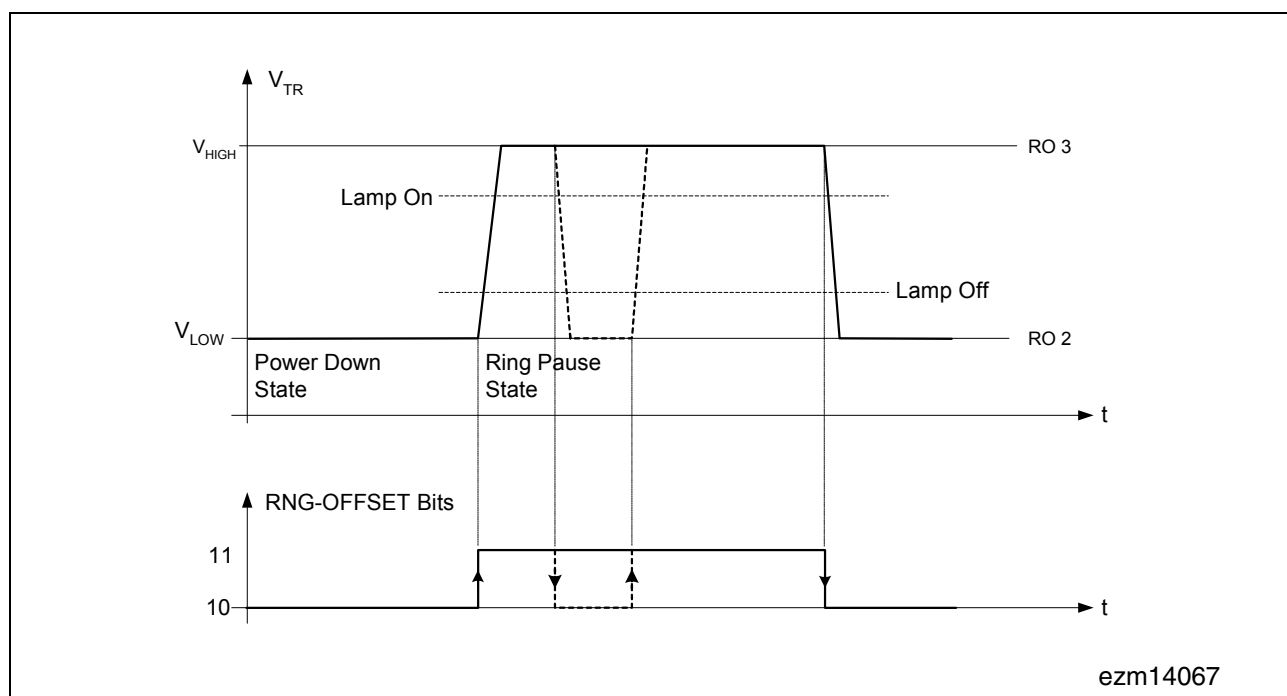

Figure 34 Timing Diagram
4. Switch between the Ring Offsets RO3 and RO2 in register LMCR3 to flash the lamp on and off (see Figure 34).